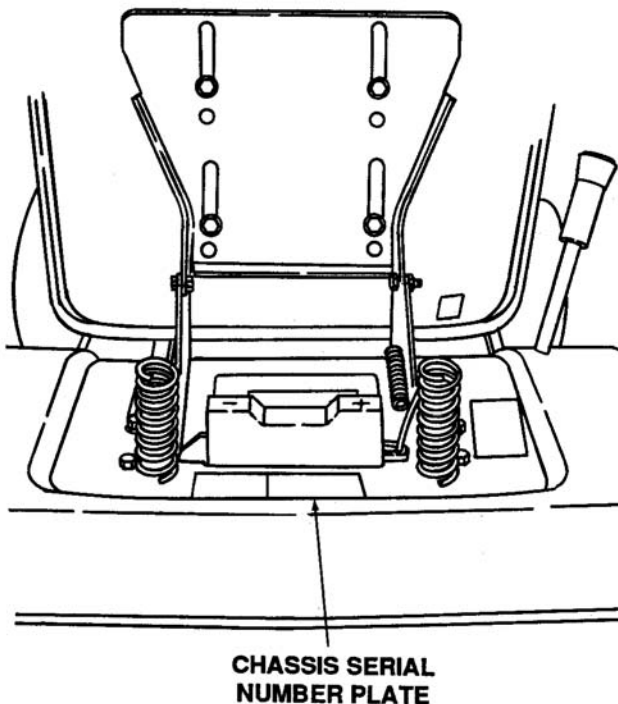

Figure 2-1. Chassis Serial Number
- 2-3.1 Serial Number Location. Serial number plate is located behind the seat on the rear fender. See Figure 2-1.